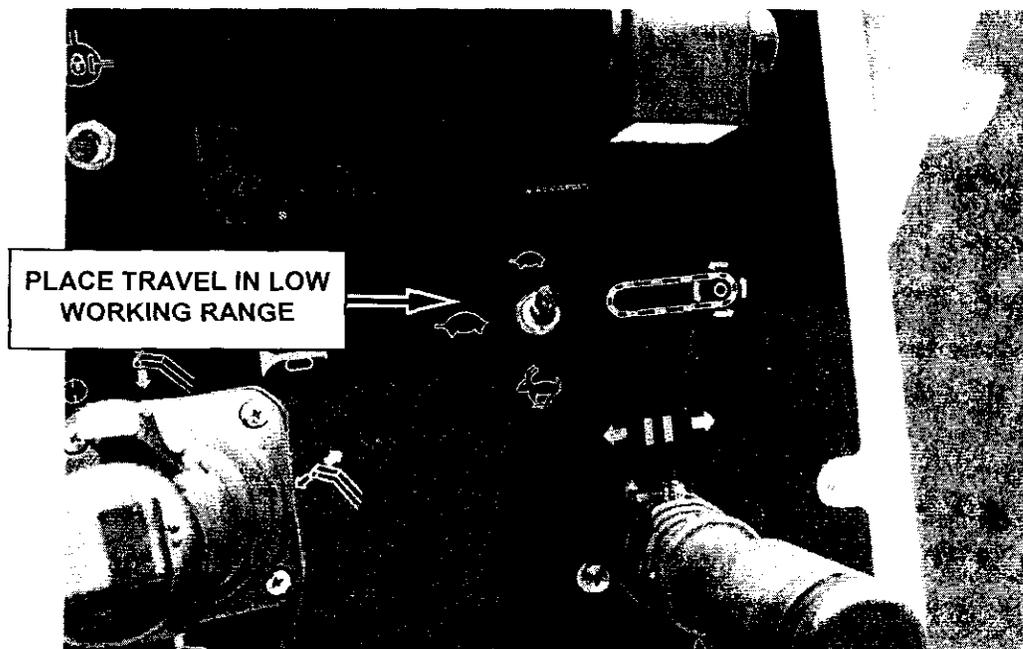

FIGURE 76
19. Place the travel selector switch in the low working range (figure 76).